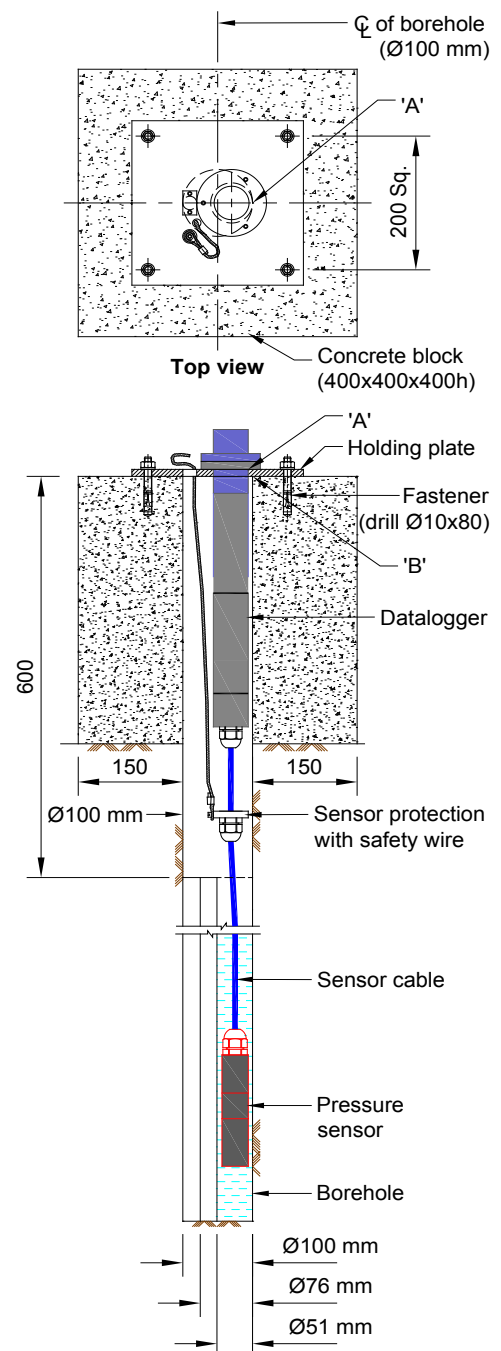

Figure 8-1: Installation
- 8.3.1 If an existing borehole is not available, drill a borehole around 0.5 m deeper than depth at which sensor is to be lowered. For borehole less than 100 mm in diameter, increase diameter in top 600 mm depth to 100 mm, eccentric with the drilled borehole as shown in figure 8.1.
- 8.3.2 At mouth of borehole, make a concrete platform (around 400 mm x 400 mm x 400 mm) concentric with the 100 mm diameter at the top of the borehole as shown in figure 8.1. Make sure that the top edge of the plastic pipe coming out of the borehole is flush with the raised platform by cutting any extra length from the top.
- 8.4.1 Remove stainless steel holding plate from the packing case. The holding plate has a 60 mm diameter hole which is to be mounted 20 mm eccentric by aligning its edge with the edge of the 100 mm diameter borehole. Refer to figures 8.1 and 8.2. Provision of eccentric mounting is made for convenience in taking water table reading manually using a water level sounder.
- 8.4.2 Place holding plate on concrete block. Align edge of 60 mm hole in holding plate (marked A) with edge of 100 mm hole in concrete block (marked B) as shown in figure 8.1.